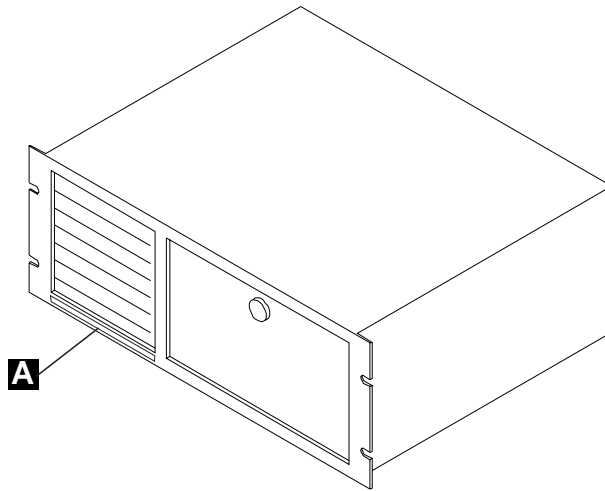

Figure 1-2. Installing Label on the Front Side of the Service Processor
2. ____ Using label (PN 0782966), **identify** your Service Processor-A or Service Processor-B by sticking the appropriate label **A** on the front side of the unit (refer to Figure 1-2).